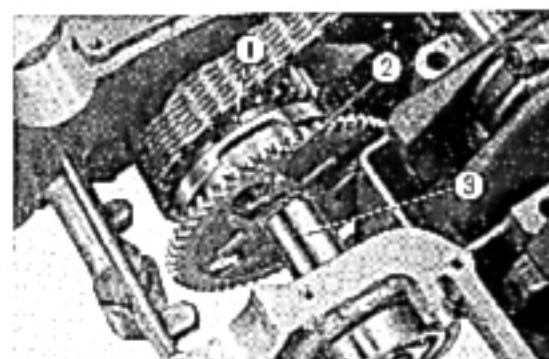

Fig. 151 (1) Starting clutch
8. Unscrew ten 8 mm bolts and twelve 6 mm bolts from the lower crankcase. Loosen the 8 mm bolts in the reverse order shown in Fig. 151.
Cut a length of plasti gauge to the width of the bearing cap. Place the gauge on the bearing parallel to the crankshaft, assemble the crankshaft and torque down the crankcase in accordance with Fig. 151.
1. Remove the bearing, assemble and tighten the upper and lower crankcases. Refer to Fig. 151.
6. Place the engine upside down so as not to separate the parting surfaces by holding them by hands and install the ten 8mm bolts. Torque the 8mm bolts in the sequence shown in Fig. 151 to a torque of 2.3-2.5 kg-m. (16.63-18.08 lbs-ft).